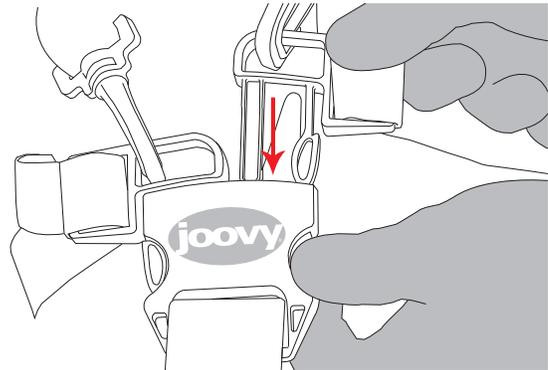

Figure 17
- Bring the seat belt around the child's waist and insert the male ends of the waist/shoulder buckle into the female buckle. Ensure that they snap into place. See Figure 17. Tighten the waist belt to be snug around the child's waist.